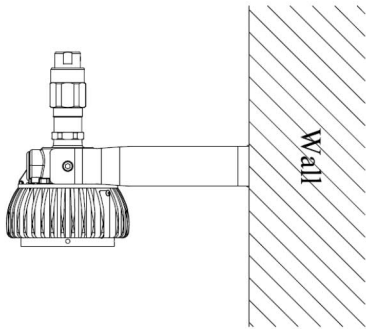
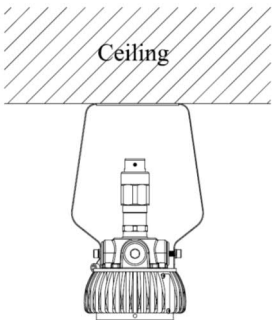

Figure 1
Figure 2
- ☞ The mount bracket is for surface mounting to wall (Figure 1) and ceiling (Figure 2).
- ☞ The luminaire can be adjusted in one position as shown in Figures 1 and 2.